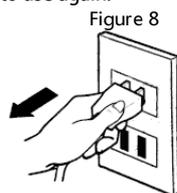

Figure 8
- When cooking is complete, tap the POWER button to shut down and remove the Power cord (6) from the electrical outlet. (See Figure 8)